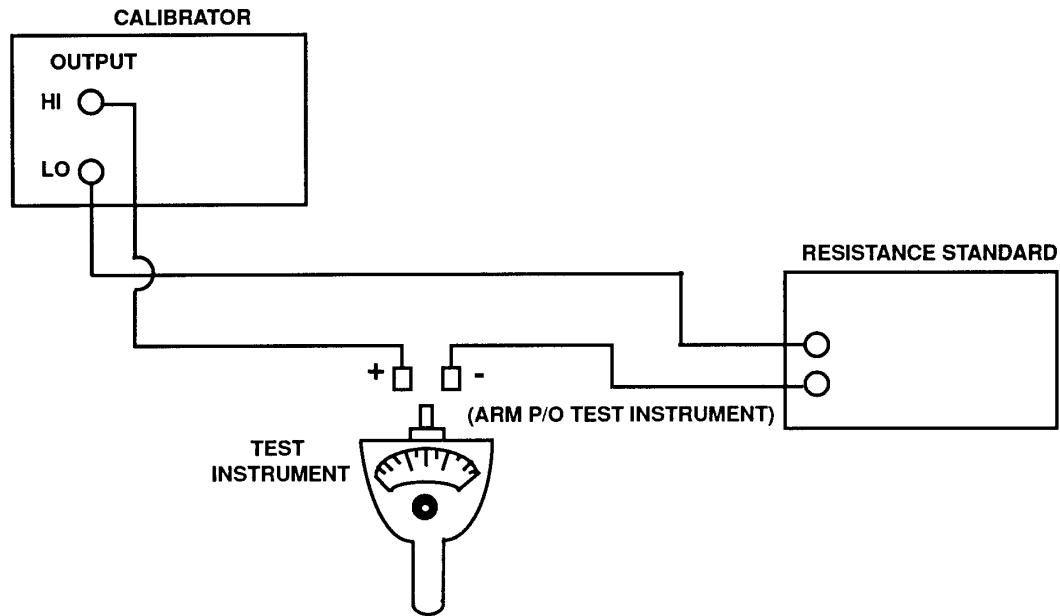

Figure 2. Thermocouple indicator - test equipment setup.
- (1) Connect equipment as shown in figure 2.
- (2) Set calibrator controls for a minimum output and resistance standard to 1.0Ω.
- (3) With no voltage applied (momentarily disconnect one lead), set TI indication to red line.